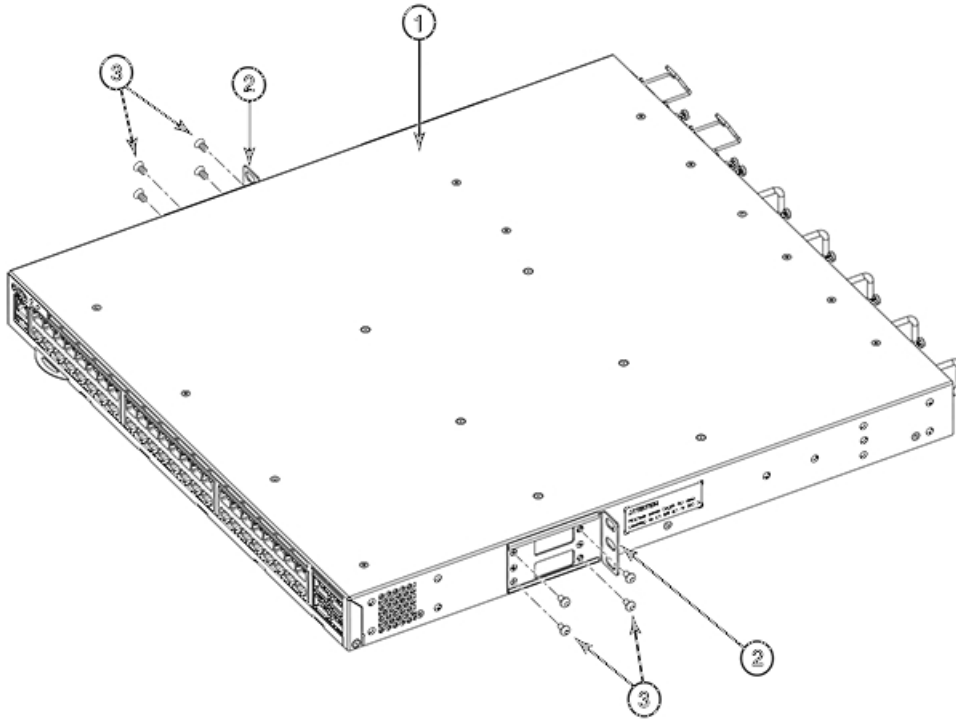

Figure 15. Attaching the front brackets
1. Position the right front bracket with the flat side against the right side of the device, as shown in Figure 15 on page 29.